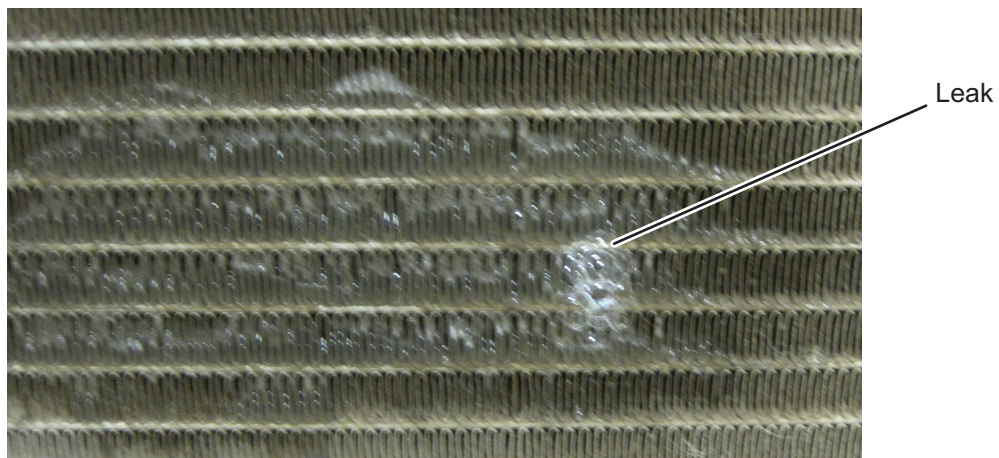

Figure 1
Seeing dirt or oil stain on the coil is not confirmation of a leak. A leak must be confirmed by pressurizing and leak checking the coil. If after confirming by leak check of the coil that the coil does have a leak, (refer to Figure 1) and if the exact location of the leak cannot be seen, the entire coil will need to be returned for evaluation.
STEP 1: Perform a proper leak check using a soap solution suitable for leak detection. Confirm the exact location of the leak. Once leak has been identified and located take a picture of the bubble formation as shown in *Figure 1*. This picture will be attached to the form in Appendix A.
Along with the above listed information, please attach pictures of the coil leak (Figure 1) as well as the coil data plate located on the edge of the coil (Example: Figure 6)